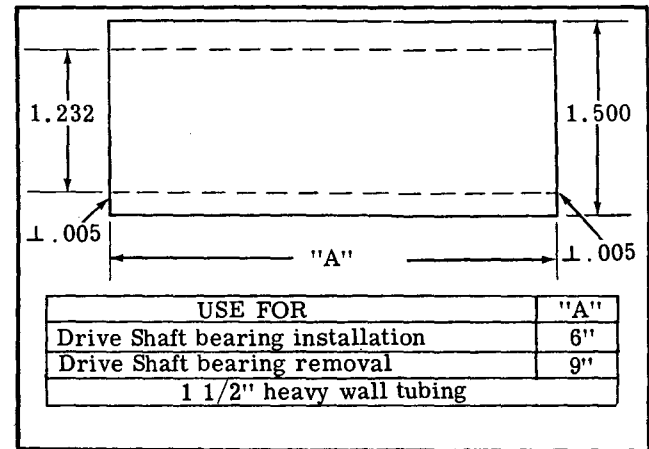
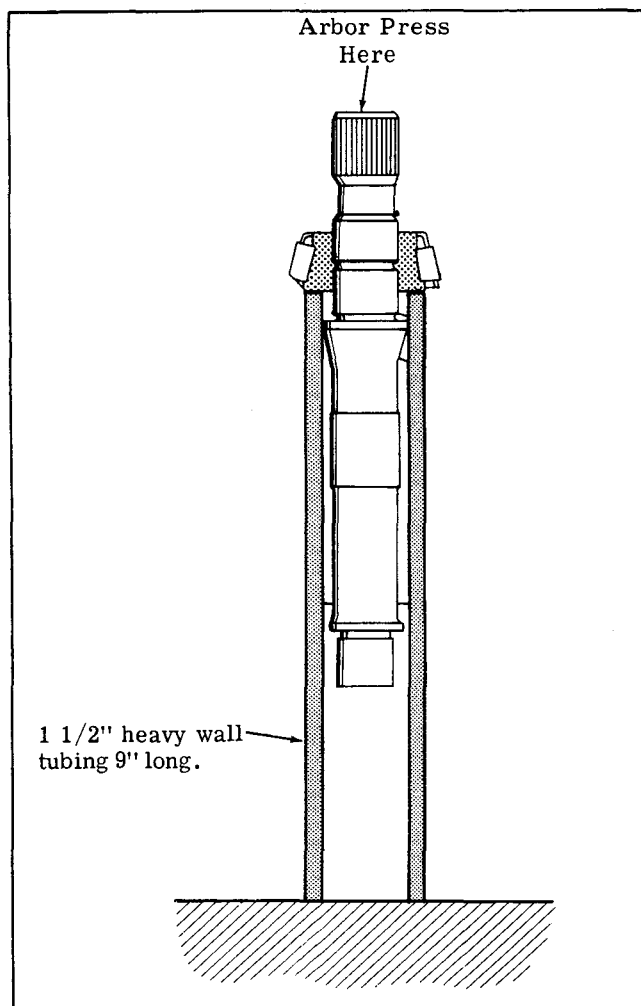

Figure 5. Special Shaft Bearing Removal and Installation Tools.
Figure 13. Front Bearing Removal
Special tools are shown in Figures 5, 6, 7, 8, and 9.
The following steps concerning removal of the front shaft bearing may not be required. Inspect shaft for broken splines, burrs, and wear in the area of shaft seal(s). Replace shaft if wear exceeds 0.005T.I.R. Inspect the front bearing for scuffing, peeling or spalling of the rollers and/or roughness when turned in the race, DO NOT remove the bearing from the shaft if the bearing is functional. If the front shaft bearing or shaft is defective, perform the following steps in the order indicated. See Figure 5 for special removal tool dimensions and refer to Figure 13 during the shaft bearing removal.
1. Pull shaft (21) and bearing from housing (3).
- a. Install a nine inch piece of 1-1/2 inch heavy wall tubing over drive shaft (21). The end of the tubing will rest against the inner race of tapered roller bearing (22) and extend out beyond the end of the shaft.
- b. Place the shaft and bearing with tubing into an arbor press with drive spline up. See Figure 13.